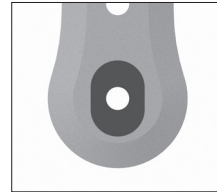

fig. 16
- **correct** position of the bearing nut (fig. 16);